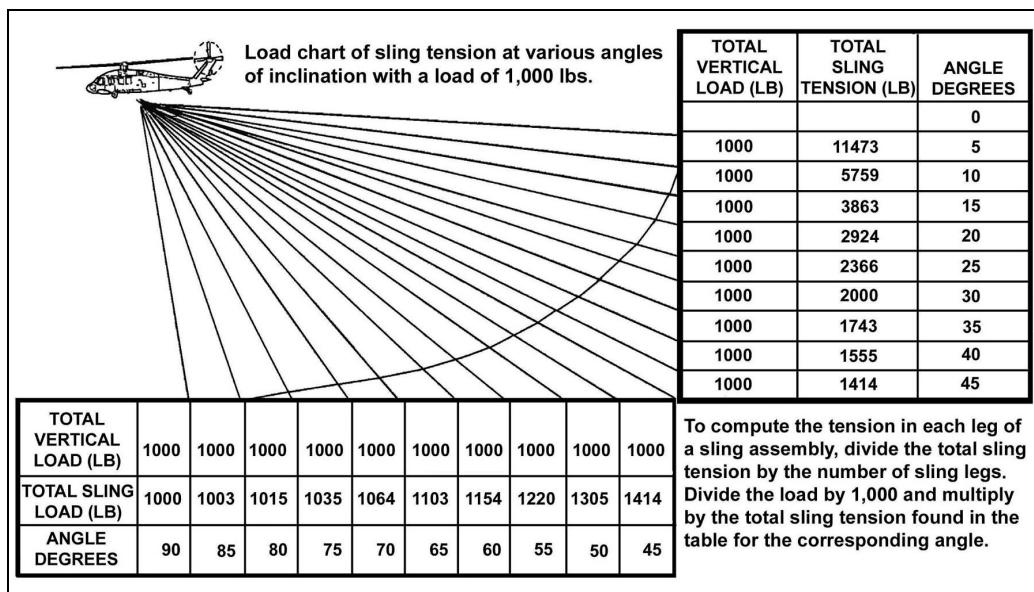

Figure 5-16. Load chart of sling tension at various angles of inclination with a load of 1,000 pounds.
d. **Sling Length.** Lengthening the slings that attach the load to the aircraft reduces the load's stability in flight. The shorter, the better, as long as the sling measures at least 6 feet long. Also, the more vertical the attached sling, the less stress on those that are more horizontal. Figure 5-16 (page 5-18) shows how sling angle affects load stress.